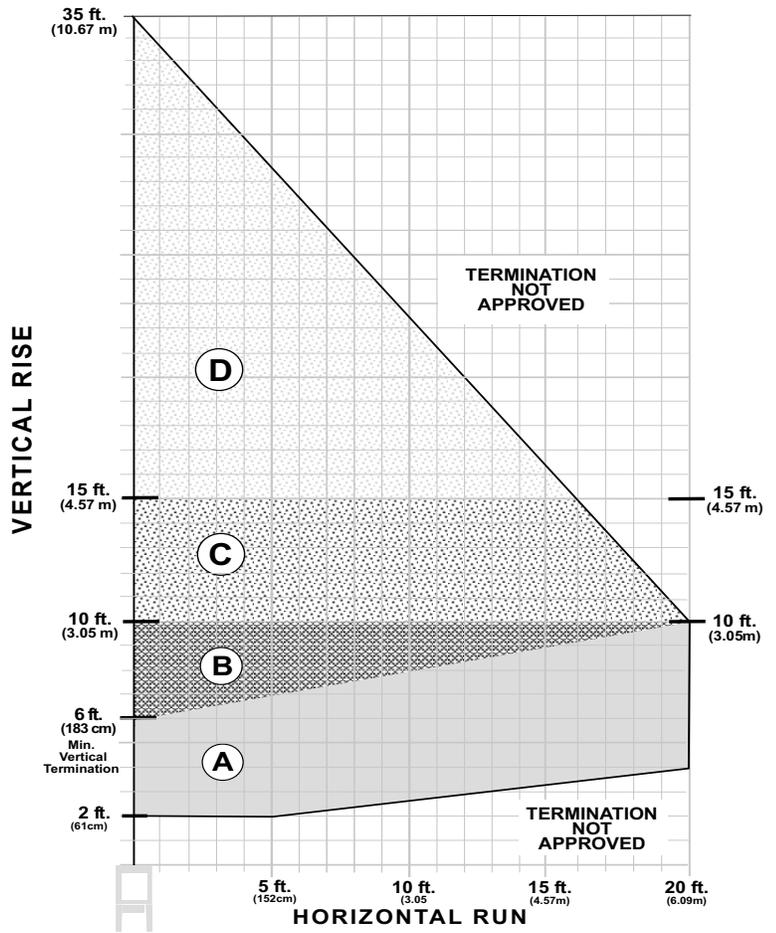
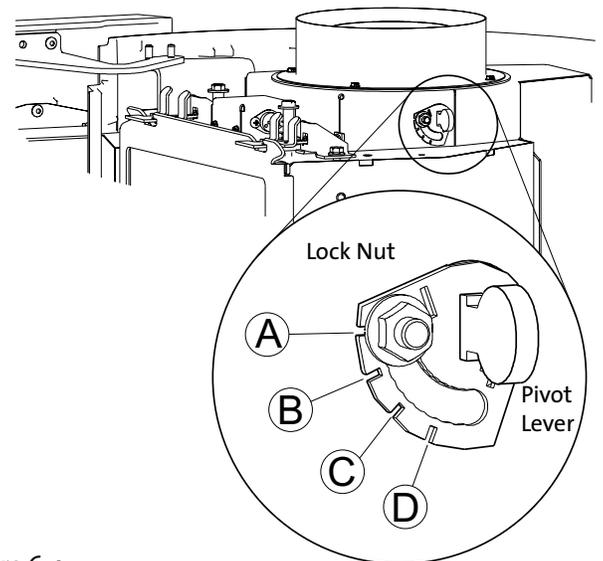

Figure 6.2.
Figure 6.4.
The Exhaust Restrictor plate is located within the firebox exhaust outlet. It is adjusted by rotating the dial on the right side of the outlet within a range beginning at the factory-set, fully open position (no restriction) to a fully restricted position. See Figs. 6.2 and 6.4. The Minus (-) and Plus (+) signs on the dial relate to degrees of restriction, from zero to approximately 70%. The four, lettered positions correlate to the termination zones (A,B,C,D) diagrammed in figure 6.4. Use the diagram to determine the degree of restriction and shutter setting that correlates to your vent configuration.
Determine the dial notch position appropriate to your vent configuration as designated in Fig 6.2. Pivot the dial to align the lock nut with that notch.
- The termination should fall within the shaded areas of the grids depicted in the Vent Matrix, fig. 6.2, page 10.
- **Maximum Horizontal run is 20 ft.** See Fig. 6.2 for related termination zone limitations.
- Any horizontal termination must fall within the shaded portion of the vent window matrix shown in fig. 6.2.